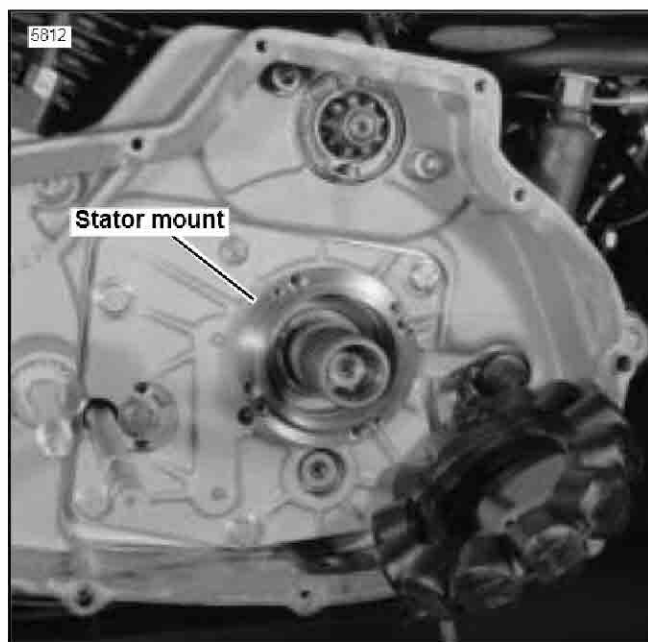

Figure 1. Stator Mount in Position
4. See Figure 1. Remove and discard screws and stator mount from vehicles using the stator mount as a method of attaching the alternator stator to the transmission access cover.